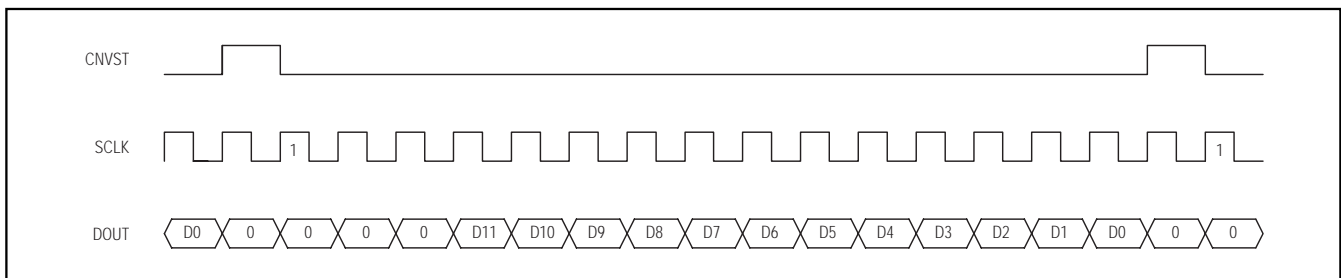

Figure 17. DSP Interface—Continuous Conversion
The MAX1277/MAX1279 can also be connected to the TMS320C54_ by using the data transmit (DX) pin to drive CNVST and the CLKX generated internally to drive SCLK. A pullup resistor is required on the CNVST signal to keep it high when DX goes high impedance and 0001hex should be written to the DXR continuously for continuous conversions. The power-down modes may be entered by writing 00FFhex to the DXR (see Figures 17 and 18).
and for an active-low frame (LTFS = 1, LRFS = 1) signal. This is also the best way to enter the power-down modes by setting the word length to 8 bits (SLEN = 1001). Connect the VL pin to the ADSP21_... supply voltage when the MAX1277/MAX1279 are operating with a supply voltage higher than the DSP supply voltage (see Figures 17 and 18).